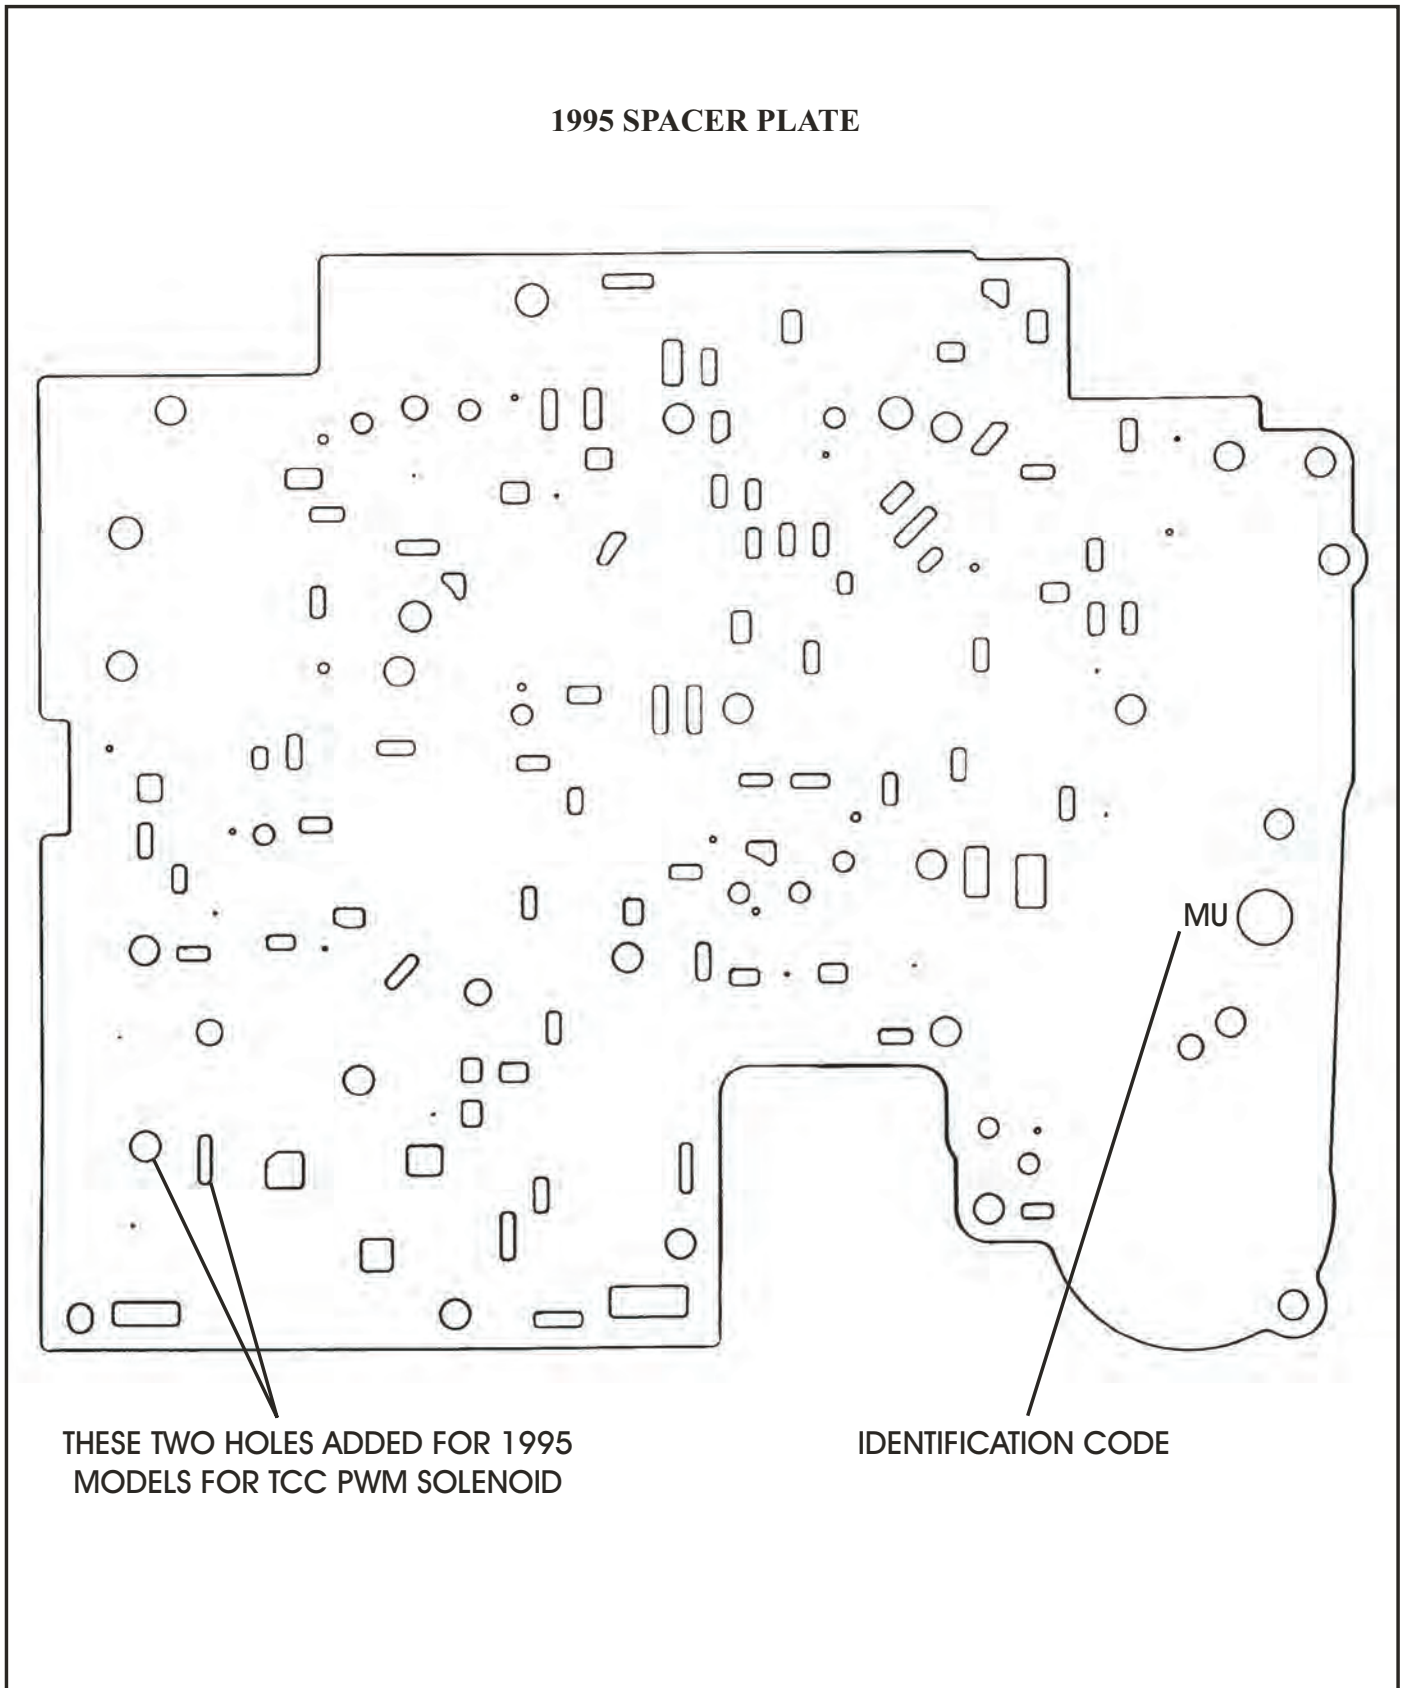

Figure 2
- (2) VALVE BODY SPACER PLATE - There were two holes added in the spacer plate to accommodate the added TCC PWM Solenoid as shown in Figure 2. The 1995 spacer plate can be identified with the first letter of the two digit code being either an "M" or "N", as shown in Figure 2. The first letter of the two digit code on the 1994 spacer plate will be "K" or "L". The 1993 spacer plate first letter will be "J". Refer to Figure 2 for location of the I.D. code stamped into the spacer plate